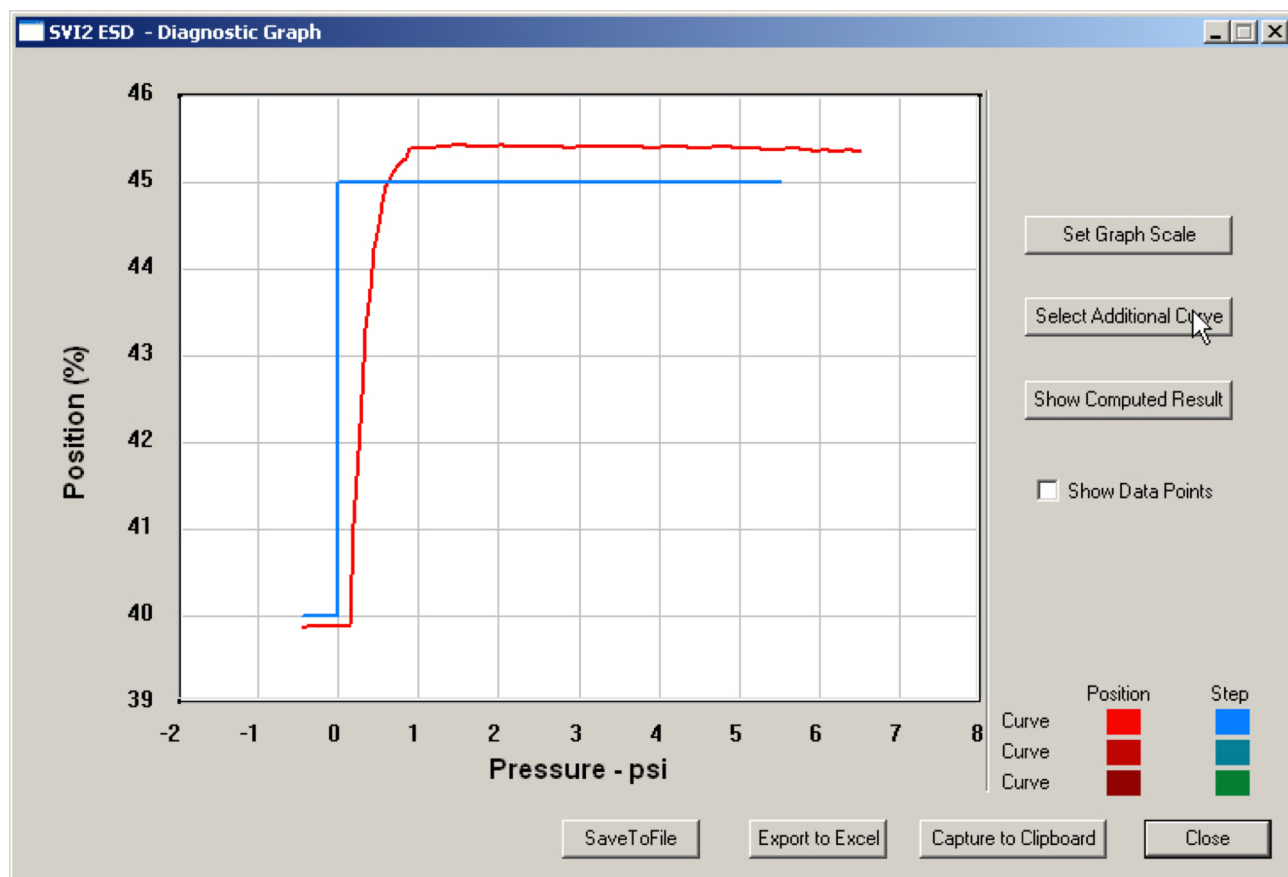

Figure 144 - Starting Select Additional Curve
1. Click **Select Additional Curve** (*Figure 144*).